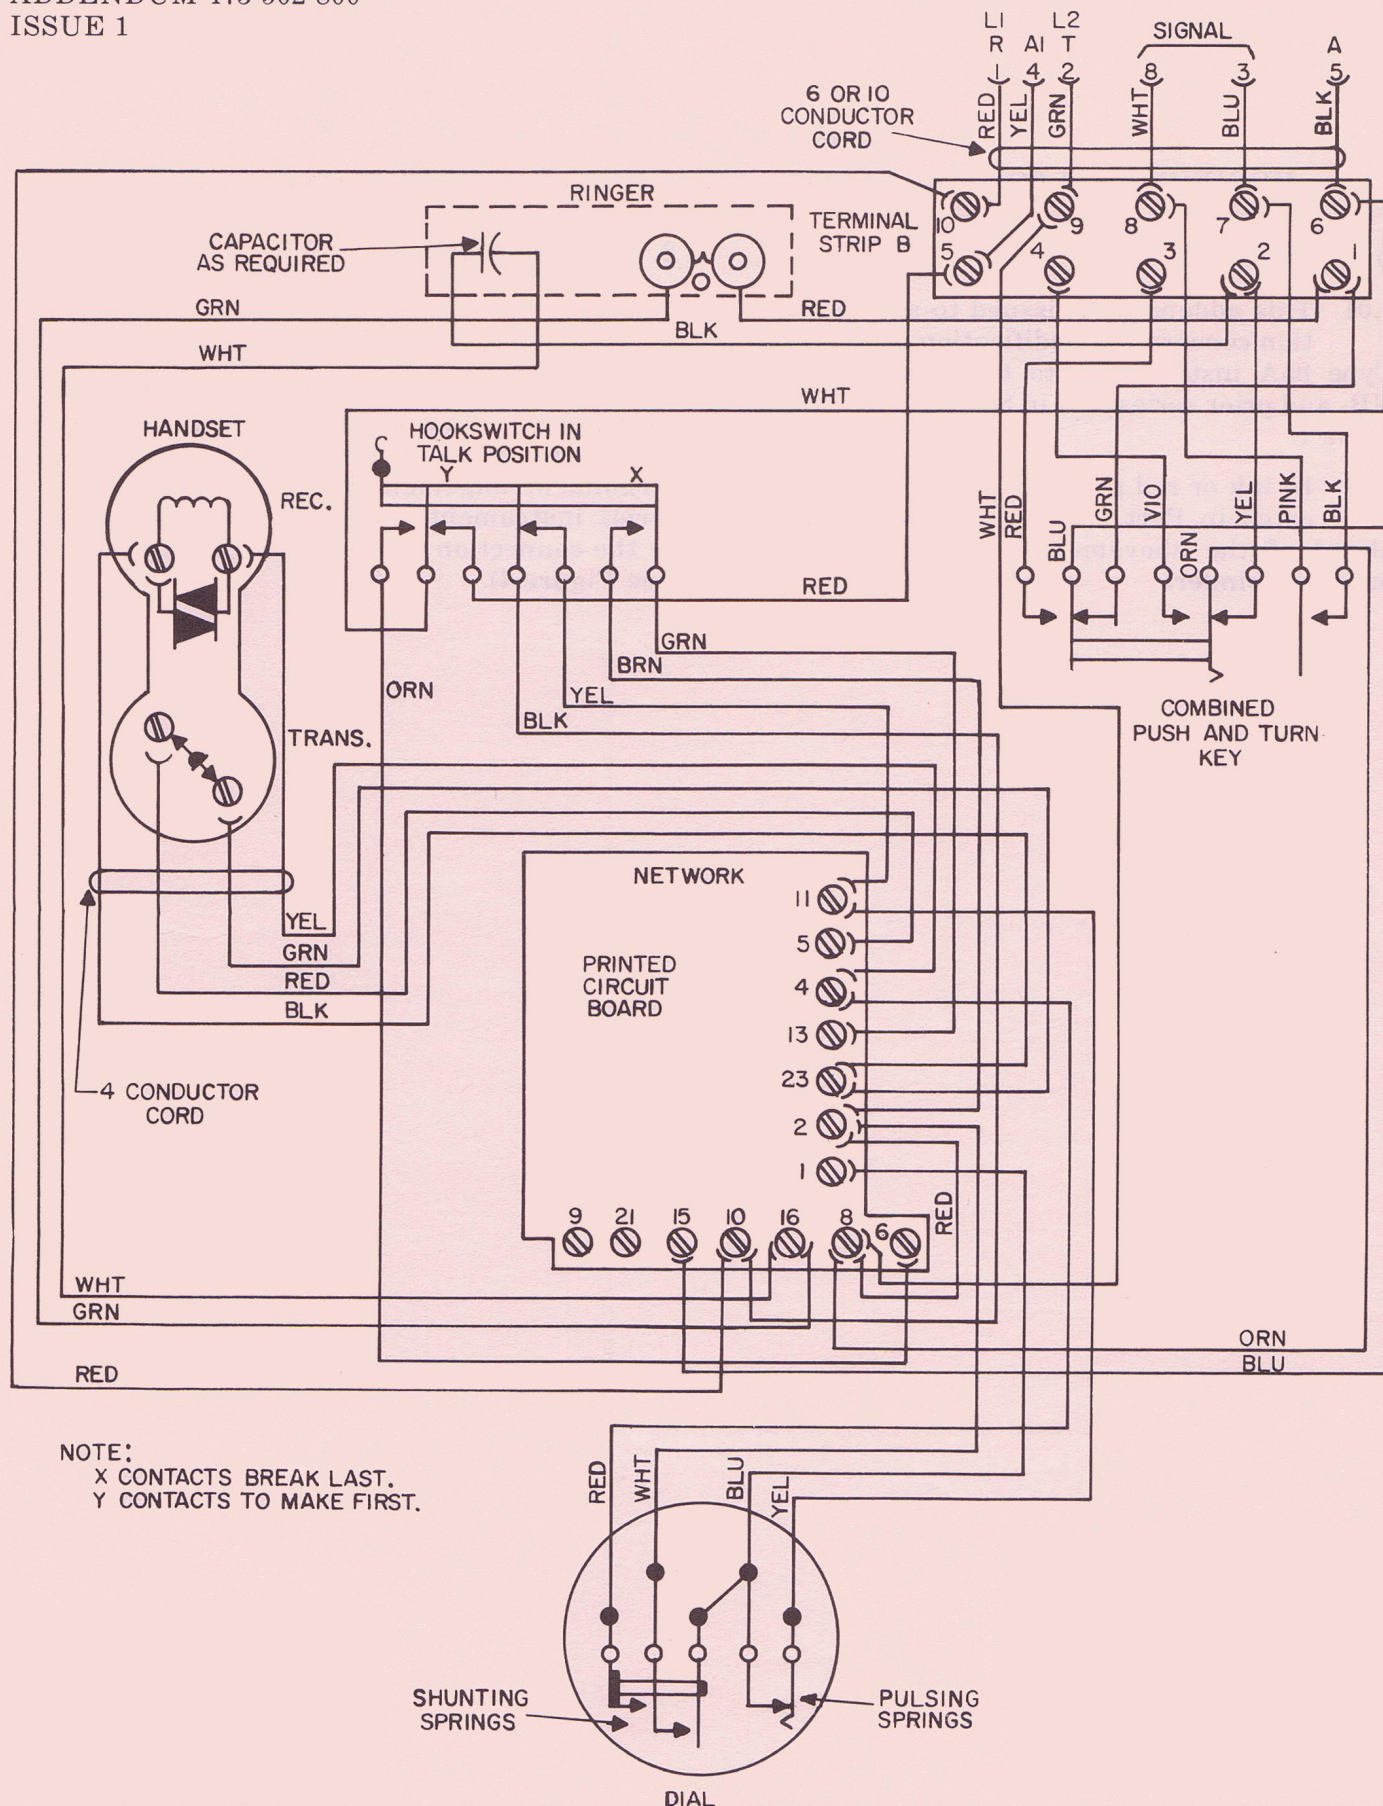

Figure 4. Wiring Diagram of Modified NC-Series Type 85A Telephone Set.
2.01 Adjacent to step (3) in Paragraph 2.01, enter the notation "See Addendum". NC-series telephone sets use a hookswitch assembly with an individual lead per spring, and a network which lacks terminal 7 and has a different terminal arrangement. When converting an NC-series instrument, eliminate steps (3) and (4), as the connection is provided by factory wiring (see Figure 4).